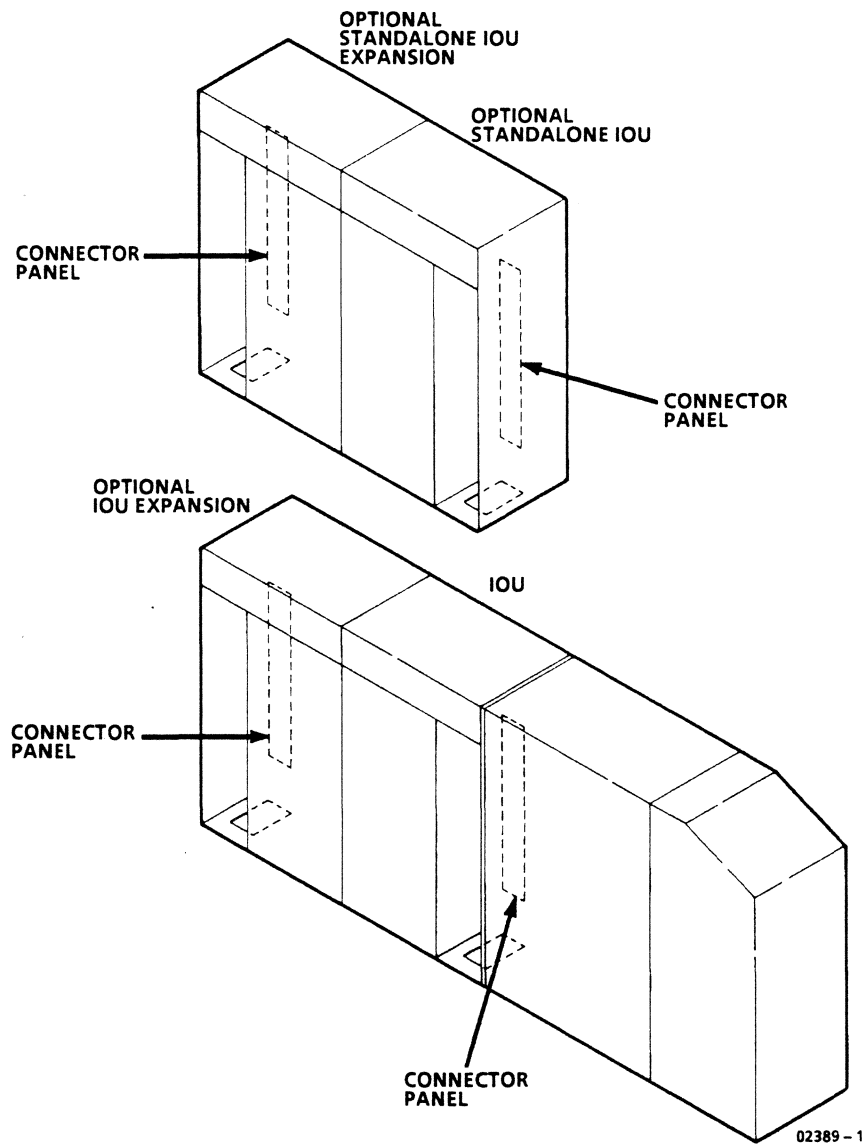

Figure 2-36. IOU Channel Cable Connector Panels
- ___ 1. Connect channel cables to each IOU connector panel (figure 2-36) from bottom to top order to permit best accessibility to panel connectors.